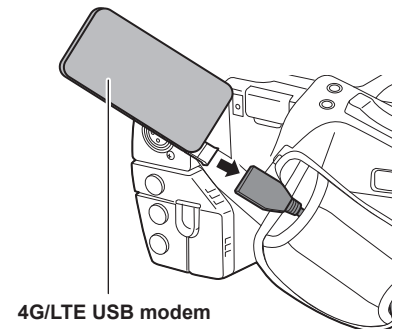

Fig. 6
- 5 Connect the 4G/LTE USB modem. (Fig. 6)